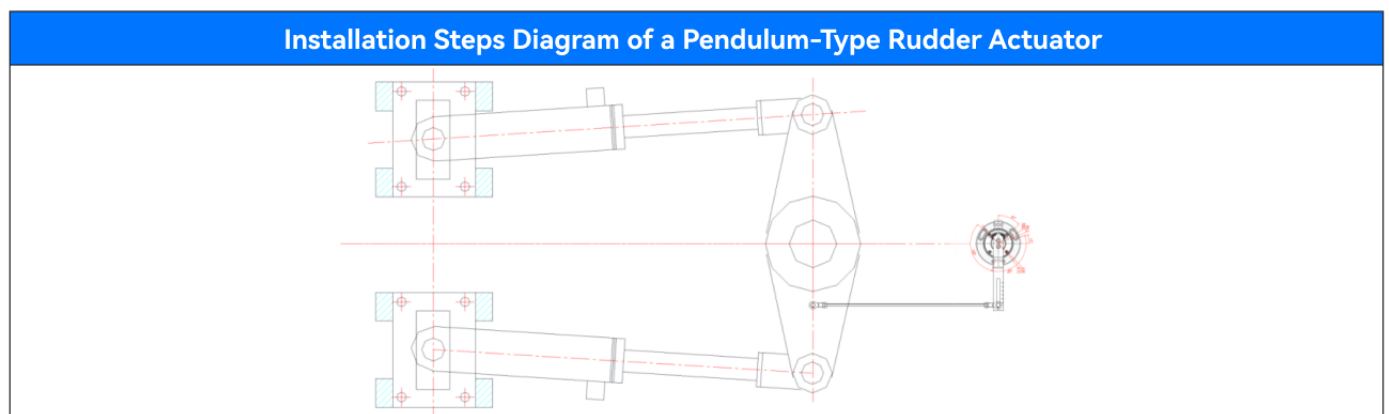

Figure 4.5
1. Installation of the swing cylinder type rudder motor rudder angle feedback device: The swing cylinder type rudder motor rudder angle feedback device is suitable for installation on the front and rear sides of the rudder rod. Adjustments should be made based on the specific layout and positional space of the rudder motor compartment. First, straighten the rudder and keep the rudder angle at the neutral position. Referencing Figure 4.5, the distance from the center of the rudder handle to the center of the feedback device ($AC = BD$) should be approximately 500 MM in length, and the lengths of AB and CD should be approximately 150 MM, forming a parallelogram ABCD. Otherwise, significant linear errors and asymmetry will occur in the rudder angle feedback.